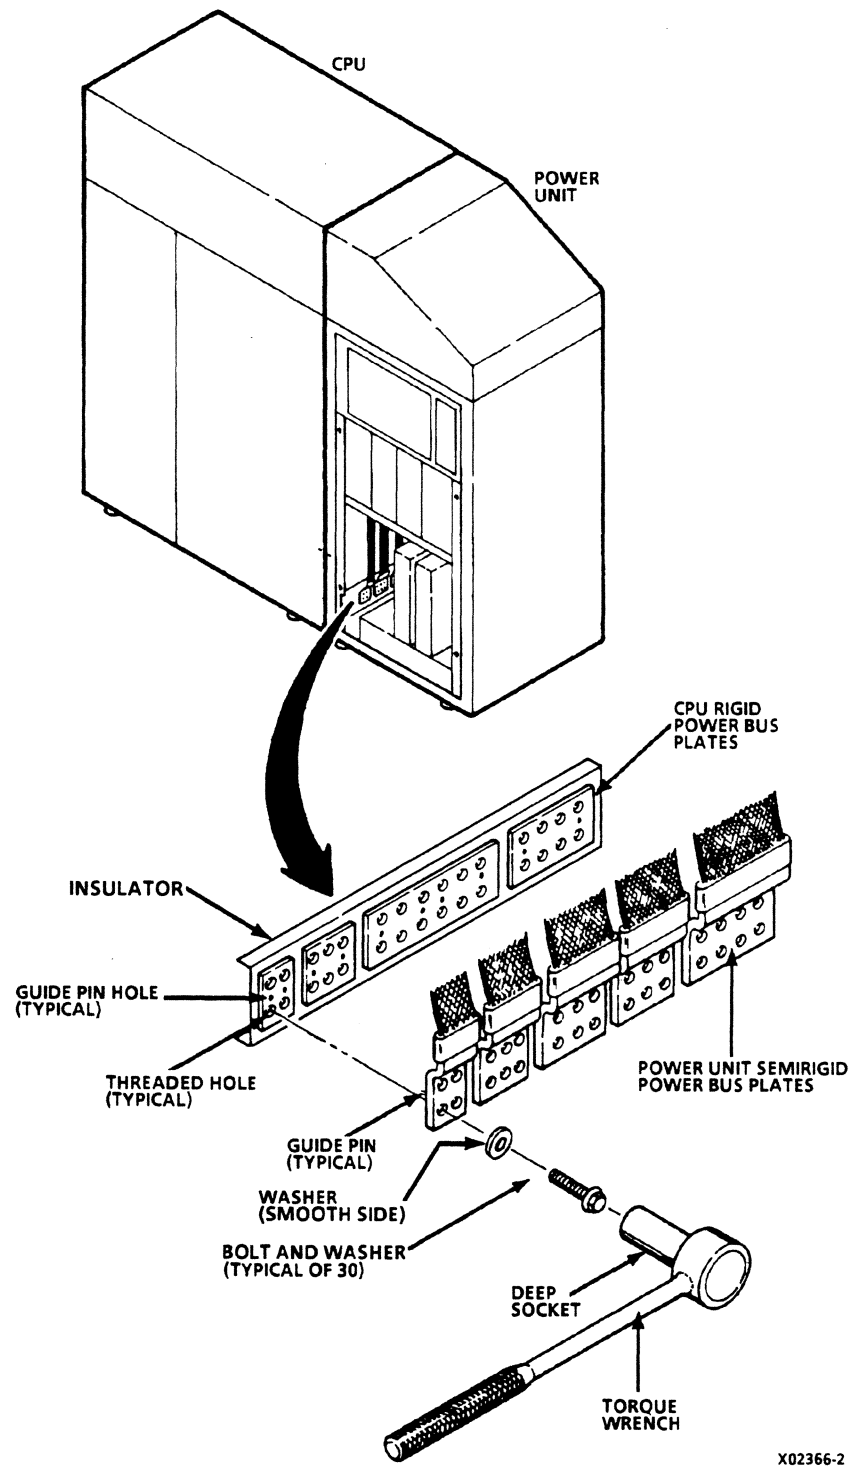

Figure 2-9. Power Bus Plate Connections
- ___ 2. Check that insulator does not overlap edges of CPU power bus plates (figure 2-9).